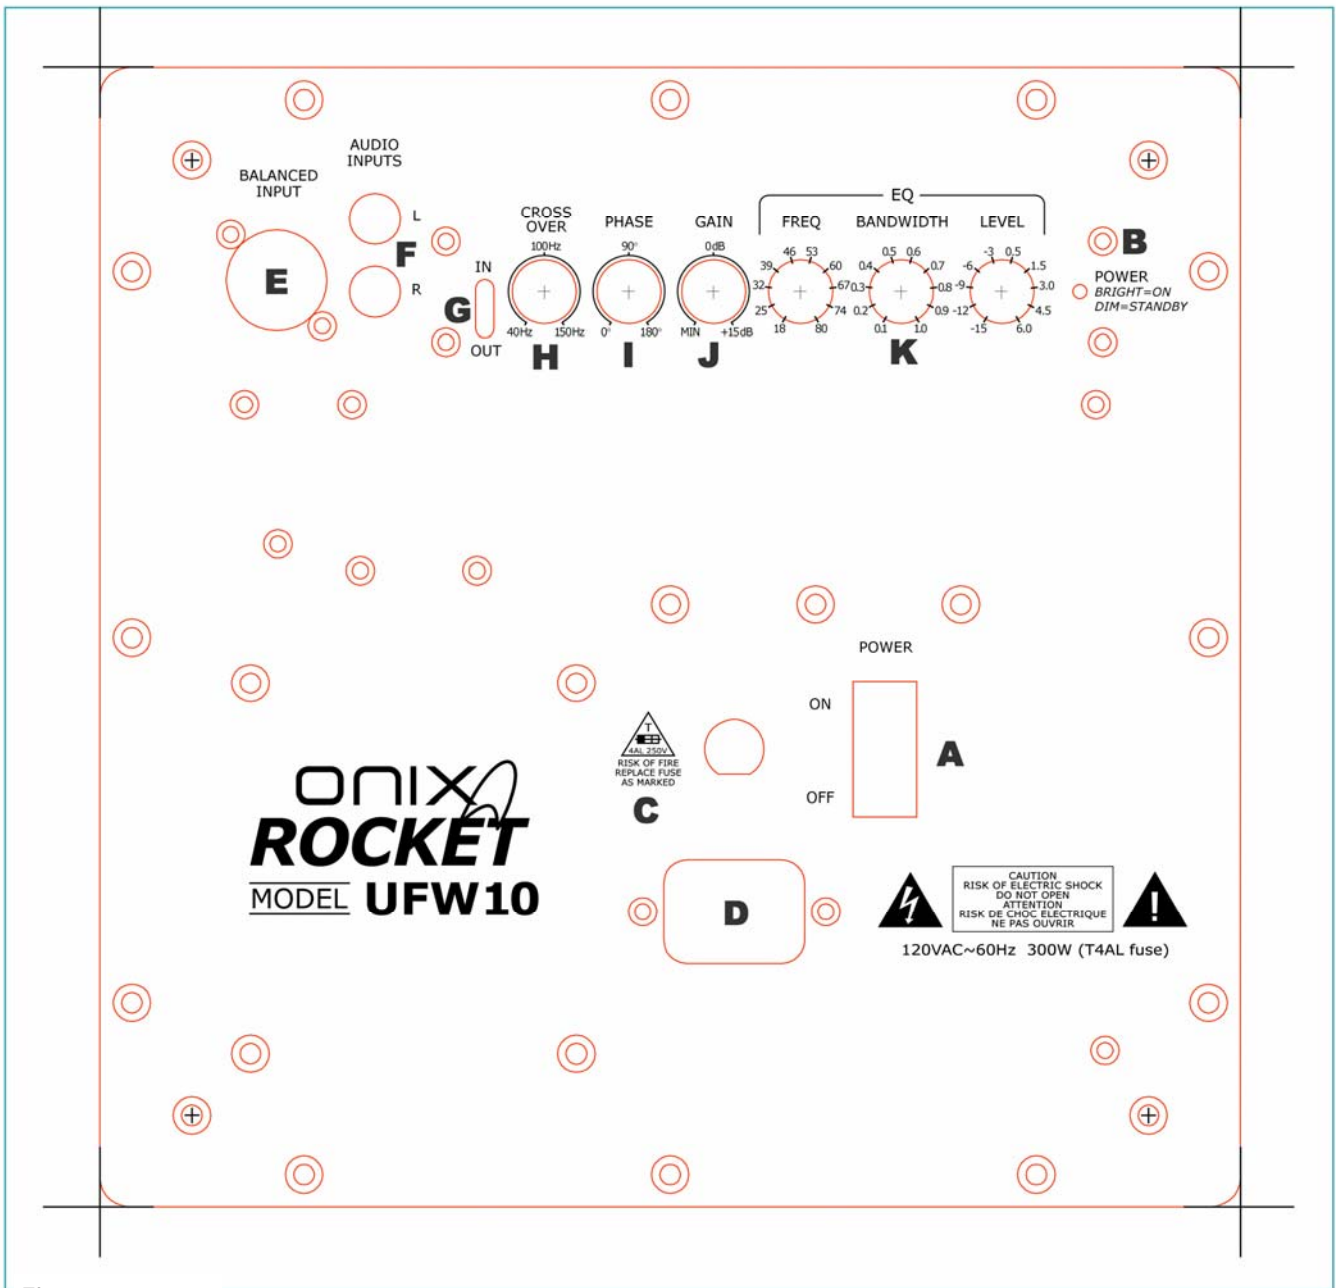
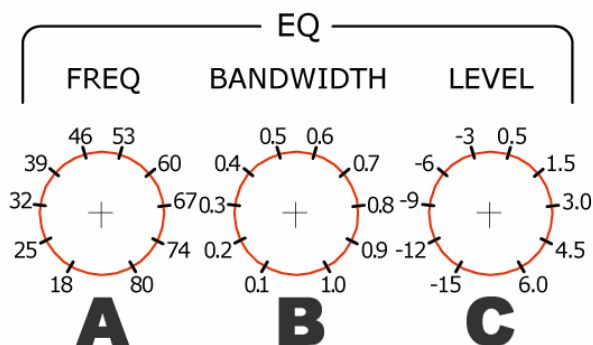

Figure 1.1
Figure 5.1
### 1.1 Control Panel Features (see figure 1.1)
The phase dial (see "I" on figure 1.1) controls the *relative* phase of the subwoofer to best reinforce the other loudspeakers in your system. Adjustments to this control will change your UFW-10's interaction with the rest of your speaker system, providing the least cancellation, and thus the best response in *any* room. With SPL meter in hand (or, better yet, on a tripod), play an 80Hz tone (for this exercise the crossover point must be set to 80Hz) and slowly rotate the phase control from "0" towards "180." Watching your SPL meter, find the point that results in the biggest peaks in sound pressure levels (i.e. reads highest on the meter). This setting indicates the least amount of bass wave cancellation, and should be held constant until the subwoofer or other speakers in your room are moved, or placement is altered in any way. With
One of the most impressive features of your UFW-10 Subwoofer is the built-in parametric EQ shown as "K" in figure 1.1 and detailed below in figure 5.1. Depending on the nature of your room or listening environment, your subwoofer may be reinforcing certain frequencies in the UFW-10's operating range such that they are significantly *louder* (at your listening position) than the desired response. Using the three dials shown in figure 5.1 below, the UFW-10's para-
Once your data is plotted as shown in figures 5.2 and 5.3, use the Frequency (A), Bandwidth (B), and Level (C) controls (as shown in figure 5.1) to adjust your subwoofer's response as follows: